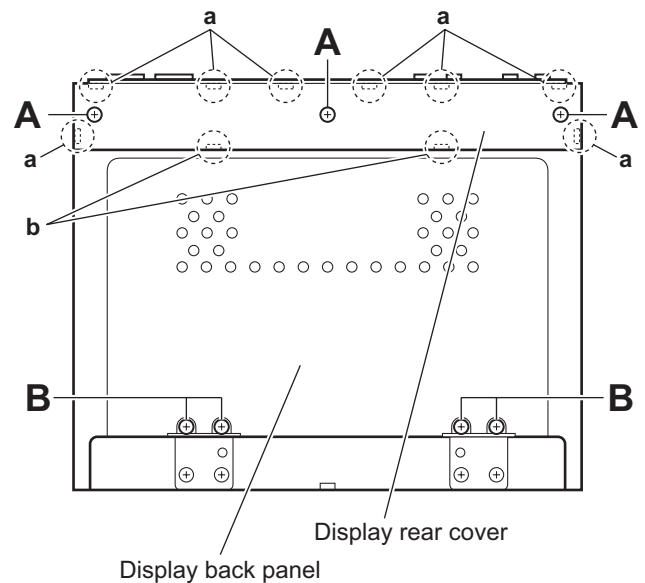

Fig.3
- (2) From the rear side of the display unit, remove the three screws **A** attaching the display rear cover. (See Fig.3.)
- (3) Release the joints **a** first and release the joint **b**. (See Fig.3.)
- (4) Remove the display rear cover.
When releasing the joints **a** and joints **b**, take care not to break the claws of the display rear cover. (See Fig.3.)
- (5) Remove the four screws **B** attaching the display back panel. (See Fig.3.)
- (6) Take out the display back panel from the display unit.